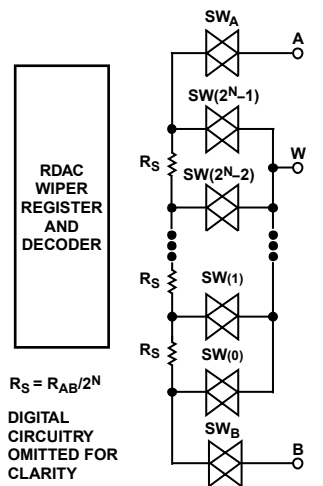

Figure 43. Equivalent RDAC Structure
The patent-pending RDAC contains multiple strings of equal resistor segments, with an array of analog switches that act as the wiper connection. The number of positions is the resolution of the device. The AD5233 has 64 connection points, allowing it to provide better than 1.5% set ability resolution. Figure 43 shows an equivalent structure of the connections between the three terminals of the RDAC. The SWA and SWB are always on, while the switches SW(0) to SW(2N-1) are on, one at a time, depending on the resistance position decoded from the data bits. Because the switch is not ideal, there is a 15 Ω wiper resistance, Rw. Wiper resistance is a function of supply voltage and temperature. The lower the supply voltage or the higher the temperature, the higher the resulting wiper resistance. Users should be aware of the wiper resistance dynamics, if accurate prediction of the output resistance is needed.
The 6-bit data-word in the RDAC latch is decoded to select one of the 64 possible settings. The following discussion describes the calculation of resistance RWB at different codes of a 10 kΩ part. For VDD = 5 V, the wiper's first connection starts at Terminal B for data 0x00. RWB(0) is 15 Ω because of the wiper resistance and because it is independent of the nominal resistance. The second connection is the first tap point, where RWB(1) becomes 156 Ω + 15 Ω = 171 Ω for data 0x01. The third connection is the next tap point representing RWB(2) = 321 Ω + 15 Ω = 327 Ω for data 0x02 and so on. Each LSB data value increase moves the wiper up the resistor ladder until the last tap point is reached at RWB(63) = 9858 Ω. See Figure 43 for a simplified diagram of the equivalent RDAC circuit. When RWB is used, Terminal A can be left floating or tied to the wiper.